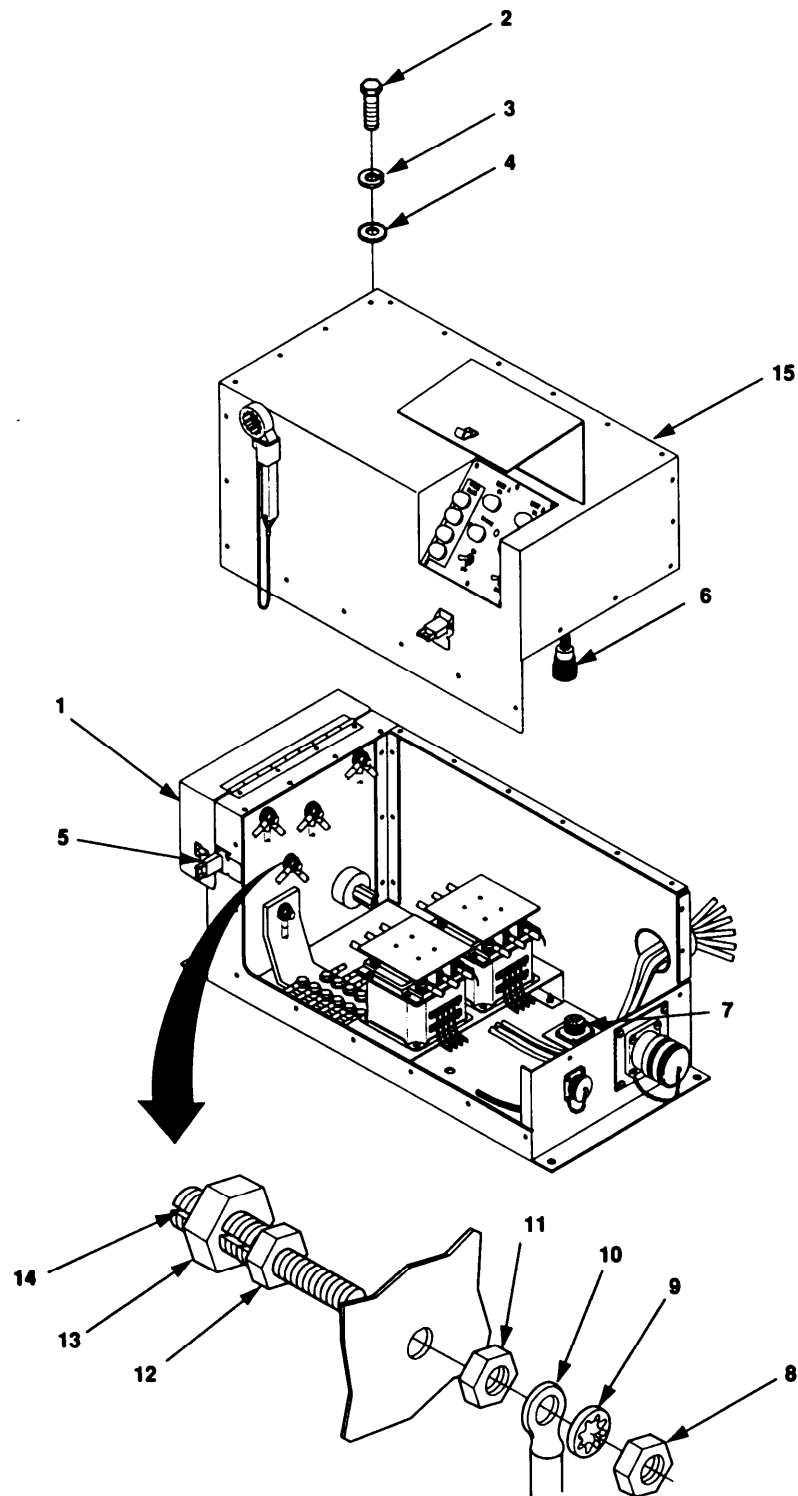

Figure 4-14. Switch Box Load Terminal Maintenance.
- 1. Remove 21 screws (2, figure 4-14), lock washers (3), and flat washers (4).
- 2. Release clamping catch (5) and open load terminal door (1).
5. Close load terminal door (1, figure 4-14) and secure with clamping catch (5).